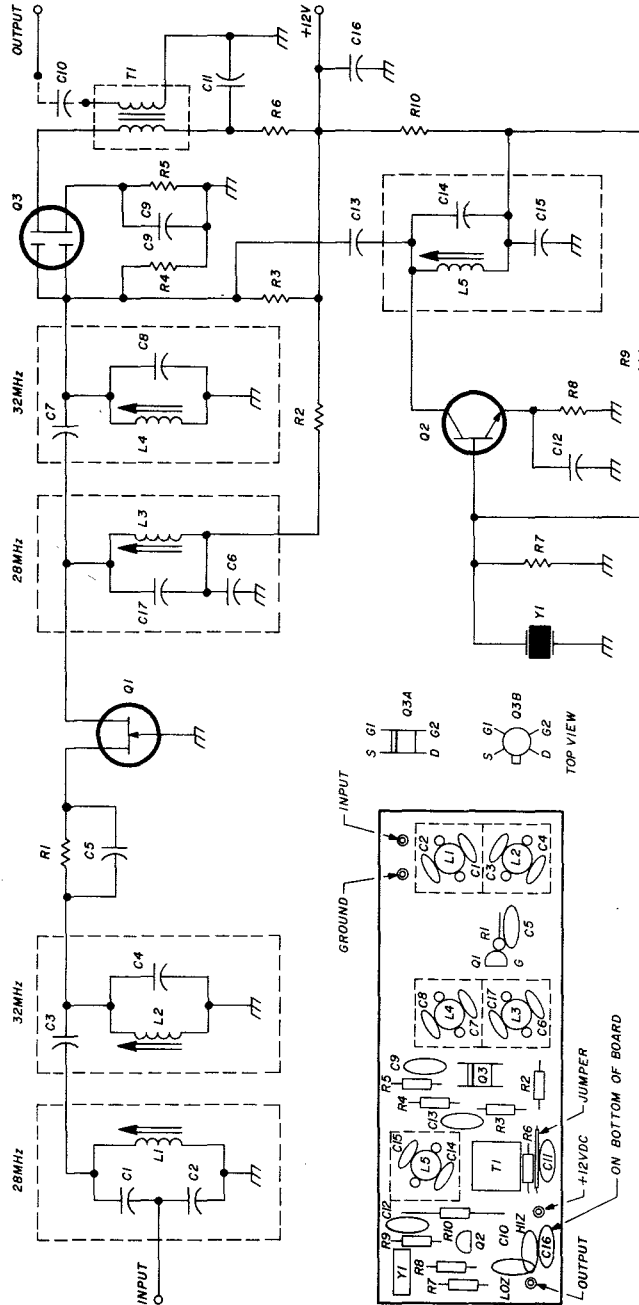

Figure 13-6. The RF28 29/30-MHz converter by VHF Engineering. Some minor changes are required to accommodate the switch-selectable 29- or 30-MHz input.
Figure 13-6 shows Q1, a 2N5486 N-channel JFET transistor, as the rf amplifier in low-noise, grounded-gate configuration. (In this Chapter we'll use both tuned circuits, as we have system gain to spare, whereas in Chapter 9 we needed every dB of i-f gain we could find for the very simple CA3048 integrated circuit wideband combination i-f/discriminator circuit.)
4. With the coil removed from L1 through L4, adjust each coil to the frequency shown in *Figure 13-6* with a grid-dip oscillator.
5. Use a receiver that will tune to 10.7 MHz and its S meter to measure output from the RF28. Inject a 30-MHz signal into the converter input with your grid-dip oscillator (or signal generator). Adjust T1 for maximum output and L1 through L4 for maximum quieting at the frequencies shown in *Figure 13-6*. Some tweaking for L1-L4 should give nearly flat response from 28 - 32 MHz. If you're lucky enough to have a sweep generator and oscilloscope, use them. The 3-dB-down points should be at about 28 and 32 MHz. If this is difficult to obtain with less than 3-dB ripple in the passband, narrow the bandpass 3-dB-down points to 28.5 and 31.5 MHz.